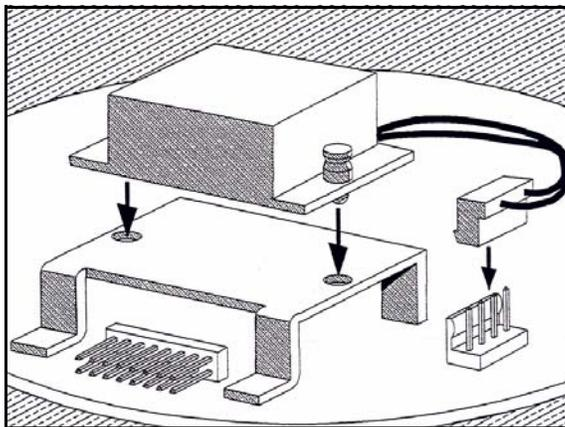

Figure 4-1: 4110 HLE Battery Replacement
3. Locate the battery mounting bracket module (see Figure 4-1 on page 17). Remove the two 4-20 screws holding the battery mounting bracket to the CPU circuit board and lift the bracket from the slots.